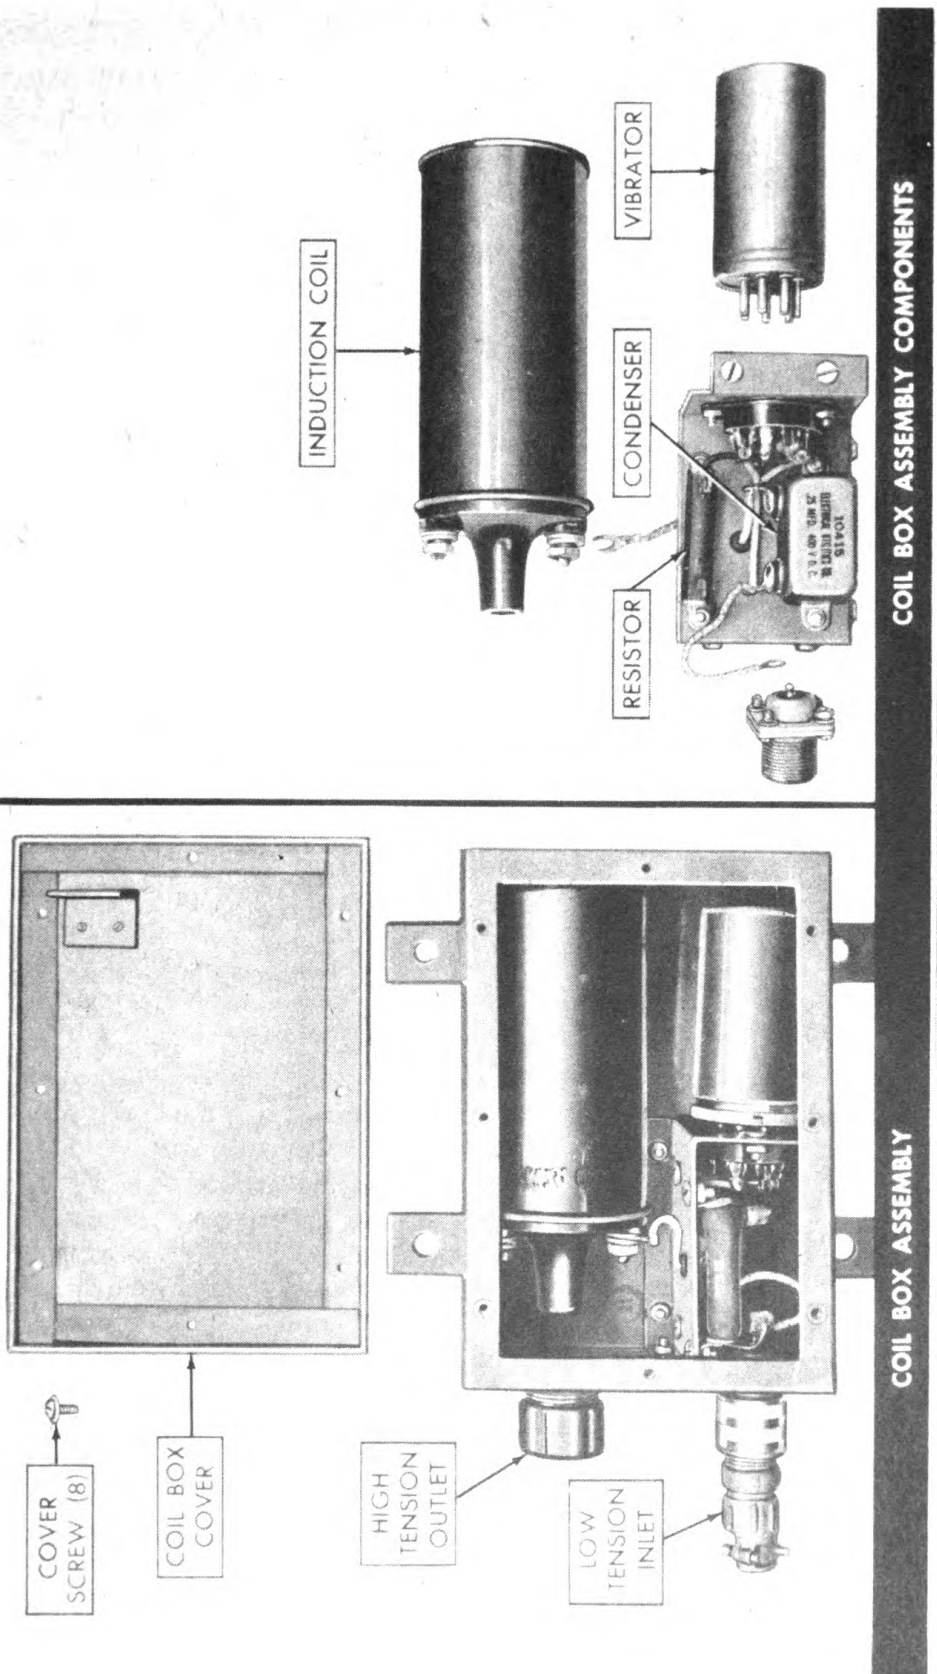

Figure 62—Coil box.
(2) *Coil boxes.* If sparks are not obtained at ignition chamber and if coil box fails to hum when igniter pedal is fully depressed and correctly adjusted (assuming the ignition safety toggle switch is on), open coil box by removing screws and replace vibrator (fig. 62). This is done by pulling vibrator out of socket connection (similar to a radio tube) and replacing with new vibrator. If coil box then fails to function, remove box and replace with complete coil box.